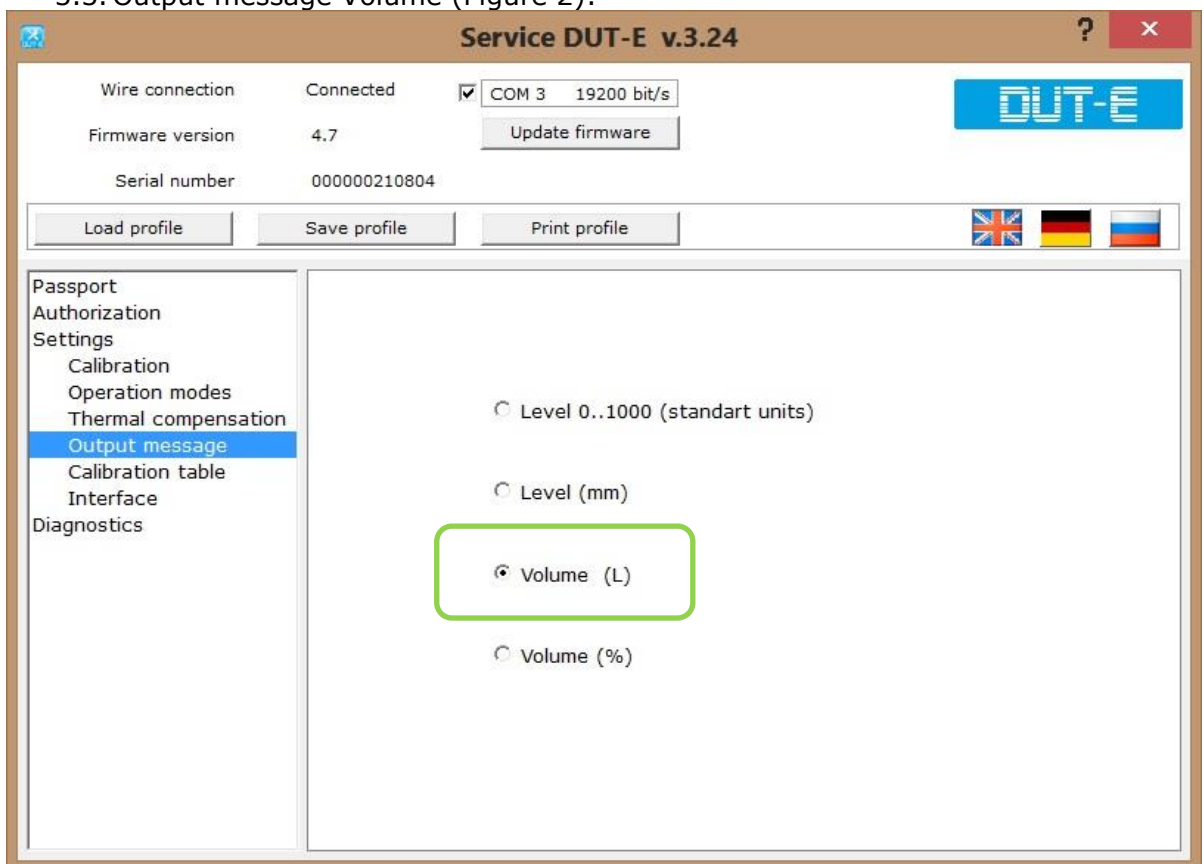

Figure 2
3.3. Output message Volume (Figure 2):